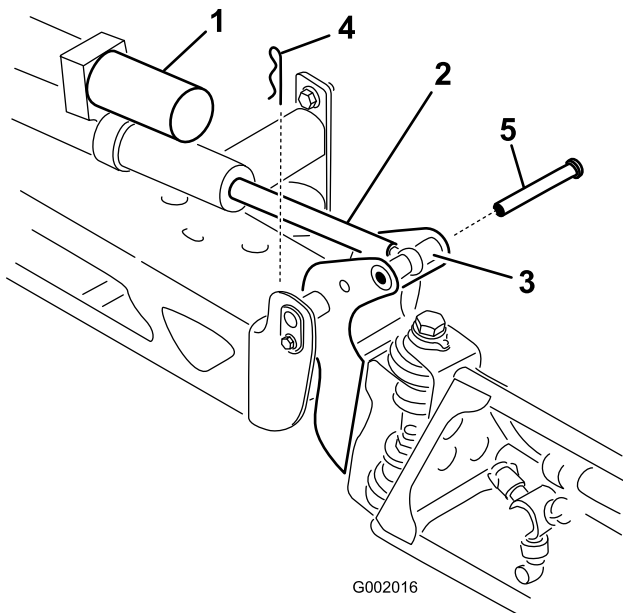

Figure 45
2. Remove the cotter pin from the pivot pin (Figure 45).
3. Lift up on the boom and remove the pin (Figure 45). Slowly lower the boom to the ground.
6. Raise the boom to align the pivot with the actuator rod. While holding the boom, insert the pin through both boom pivot and actuator rod (Figure 45).